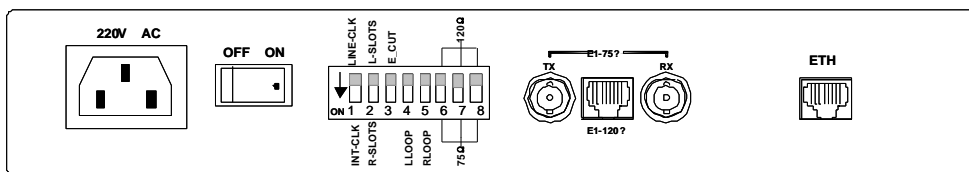

Figure 3 AC input rear panel of FE1/100BASE-TX Bridge
- The AC input rear panel of FE1/100BASE-TX Bridge is shown in figure 3.
The others are the same as in figure 3.
See figure 3 about the description of AC input rear panel of FE1/100BASE-TX bridge for the functions of every component of the small panel.